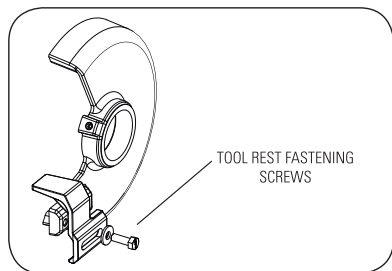

FIGURE 9.1
- Adjust the distance between the grinding wheel and the tool rest in order to maintain it at a distance of 1/16" (1.6 mm) or less, as the diameter of the grinding wheel decreases with use. (Figure 9.1) Adjust it in case there is interference. Proper tool rest adjustments will provide the suitable work angle for efficient grinding.